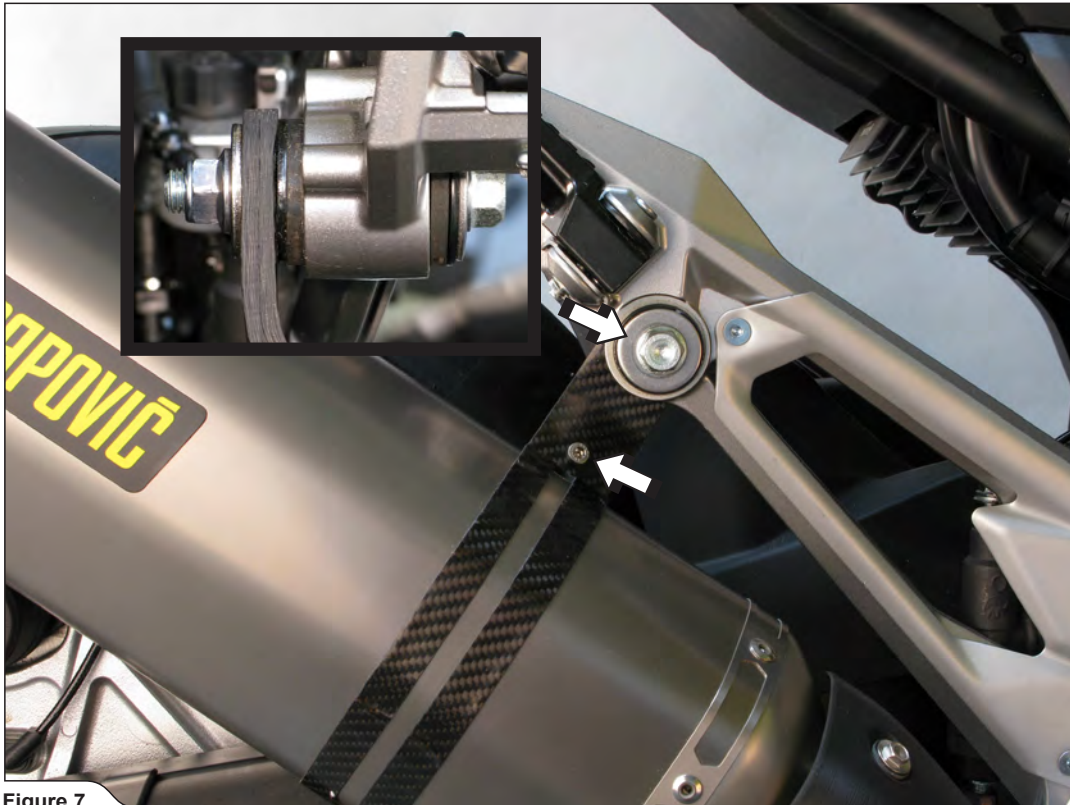

Figure 7
4. Hand tighten the clamp's bolt and clamp onto the bracket (using stock nut with Akrapovič bolt and washers from Akrapovič installation kit) (Figure 7).